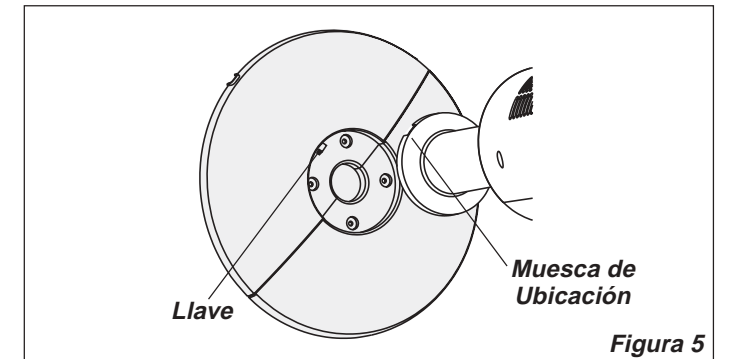
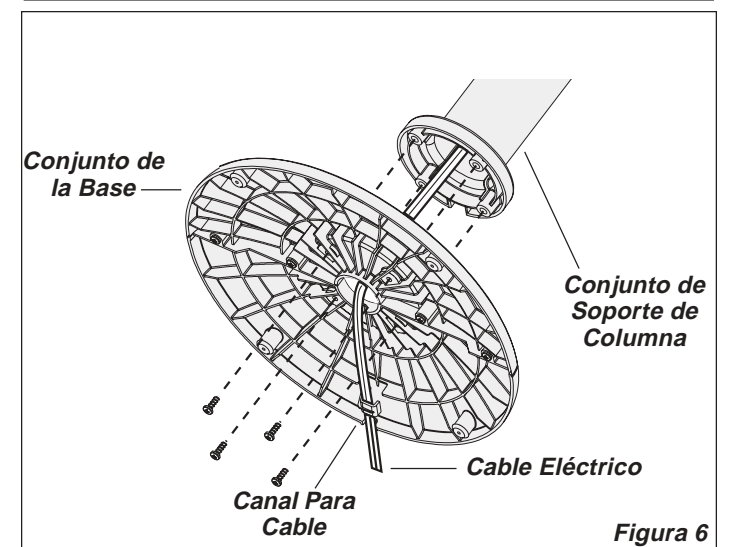

Figure 5
Figure 6
- 5. Align the **Base Assembly** with the **Column Support Assembly**. Make certain to align the **Locating Notch** on the **Column Support Assembly** with the **Key** on the **Base Assembly** (Figure 5). Attach the **Base Assembly** to the **Column Support Assembly** with (4) M5 X 13mm Screws. Gently pull any excess slack of the **Power Supply Cord** and place it in the **Cord Channel** of the **Base Assembly**. (Figure 6)